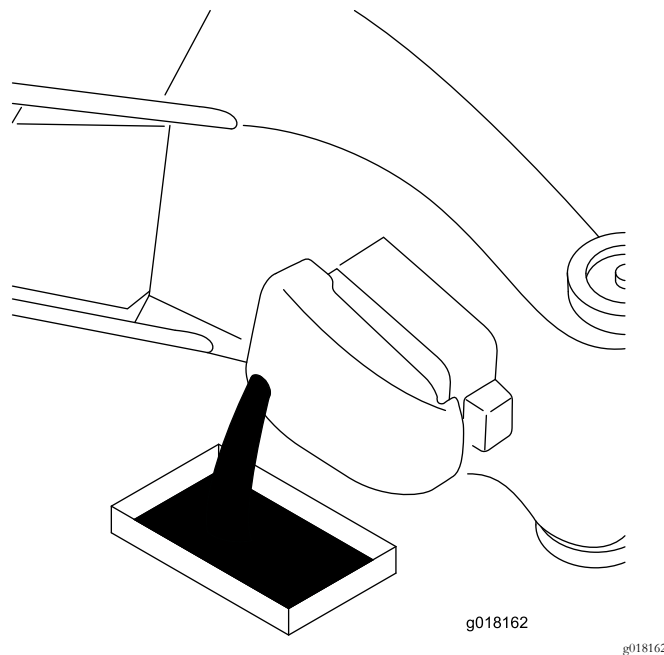

Figure 18
- Tip the machine onto its side, with the air filter up, to drain the used oil out through the oil-fill tube (Figure 18).